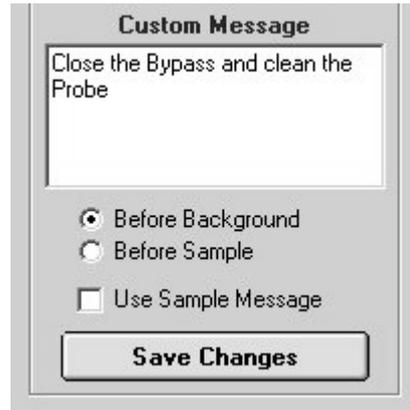

Figure 351: OVP Accessory Manager - Custom Message entry field
- 8) In the *Custom Message* entry field (figure 351) you can enter a test description which will be shown in the measurement wizard before running the test measurements. The text should reflect the actions to be performed. If required, you can also add an optional test to each sample measurement. Store the current settings by clicking on the *Save Changes* button.